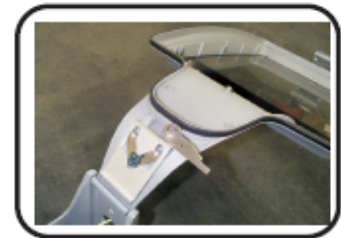

Fig. 2
1. Place luminaire with lens facing up on a non scratching surface. Unlatch door and slowly open as far as safety cable will allow. Disengage safety cable from door. Open door further until hinge clamp lock is accessible. Rotate hinge clamp lock to free hinge clamp (fig. 2). Pull hinge clamp away from hinge. Carefully rotate door toward the closed position until hinge disengages.